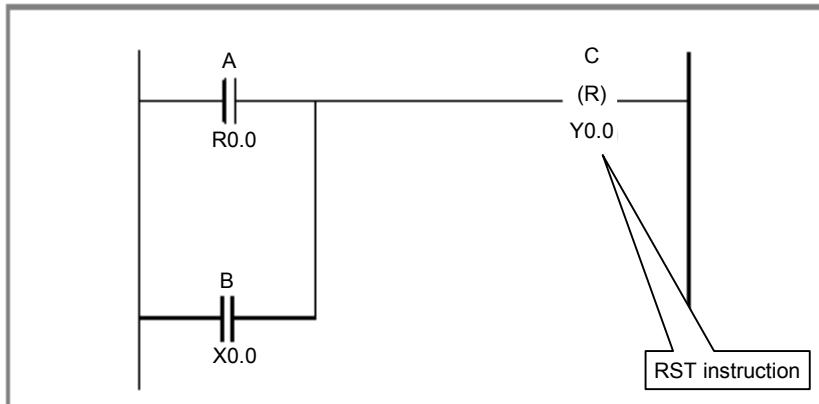

Fig. 4.1.15
- (1) This instruction keeps the status of the specified address to OFF. It finds the logical product of the operation result (ST0) and the specified reversed address and outputs it to the specified address.
- (2) For examples of how the RST instruction is used, see Fig. 4.1.15 and Table 4.1.15.
- (3) Caution